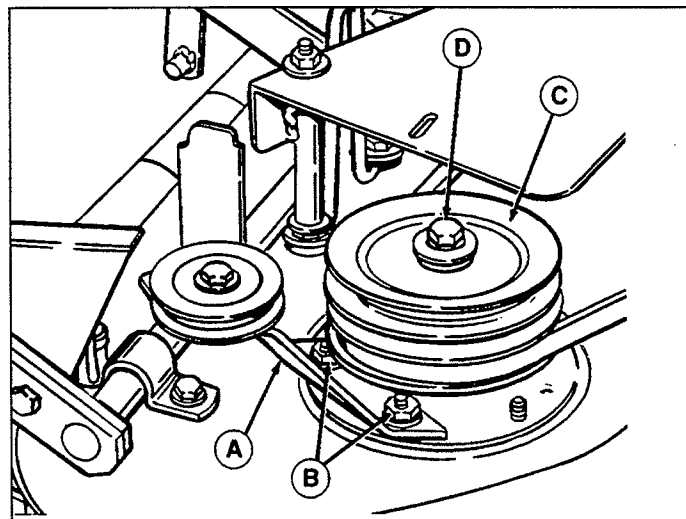

Figure 4.
7. See figure 4. Position the pulley bracket assy. on the 7/8 capscrews installed in step 6. Secure with two 5/16-18 whizlock nuts. Install the double groove pulley (C) to the arbor shaft. Reinstall the lockwasher, and large flat washer removed in step 5 and secure with a new capscrew (D). Torque capscrew to 50-70 ft.-lbs. (68-76 Nm).